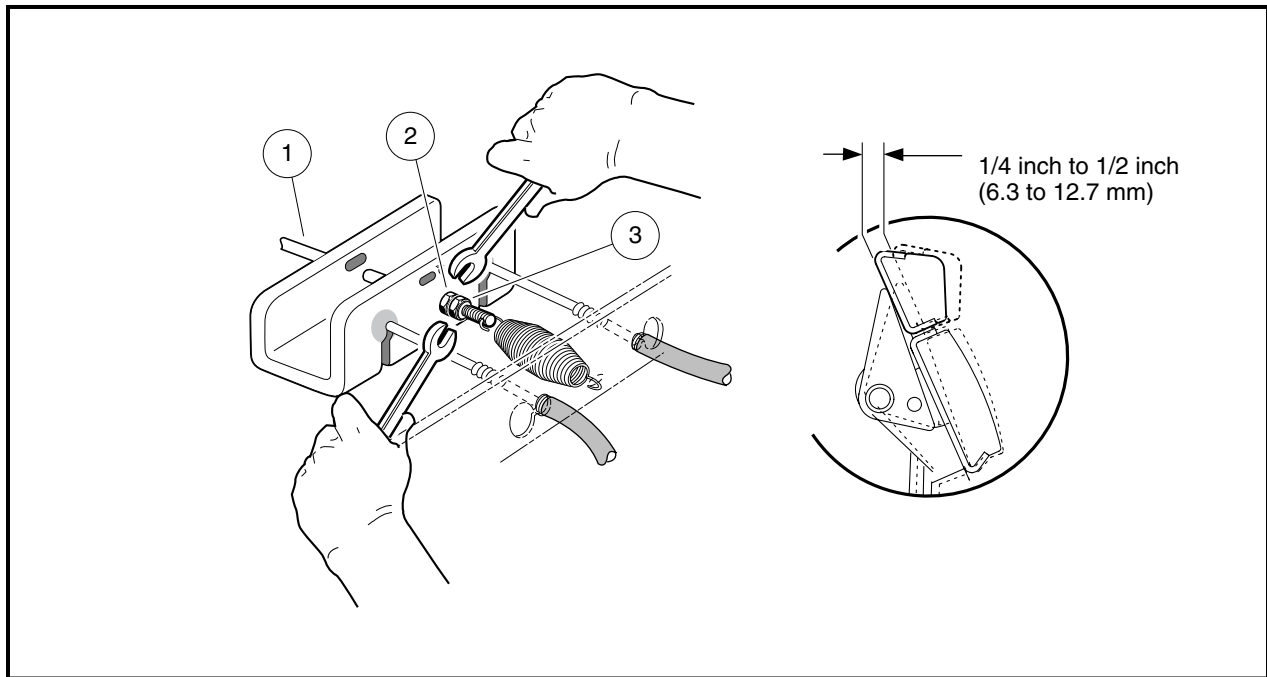

Figure 5-36 Brake Pedal Free-Play Adjustment
- 3.2. Tighten the nut (2) on the equalizer rod (1) so that the brake pedal free play is 1/4 to 1/2 inch (6.3 to 12.7 mm) (**Figure 5-36, Page 5-22**).
- 3.3. Tighten the jam nut (3) while holding the adjustment nut (2) in the correct position (**Figure 5-36, Page 5-22**).